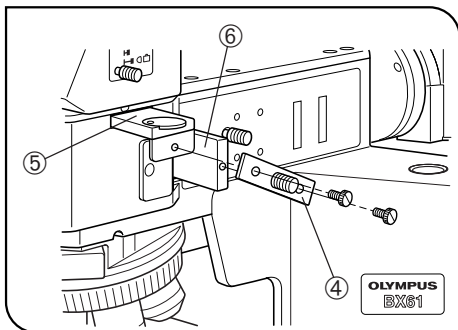

Fig. 12
**Using the Joint Plate (Fig. 12)**